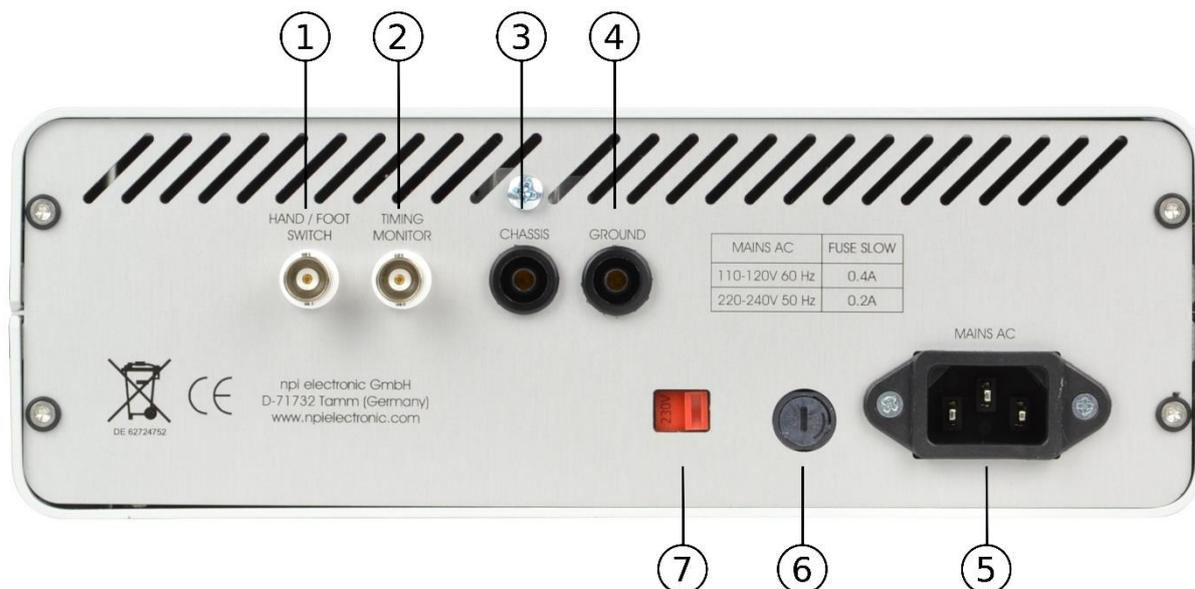

Figure 3: PDES-01LP rear panel view (the numbers are related to those in the text below)
- o Optional: Connect the hand or foot switch (see Figure 7) to the HAND/FOOT SWITCH connector at the rear panel (#1, Figure 3). The switch works as described above for the START button (#3, Figure 1).